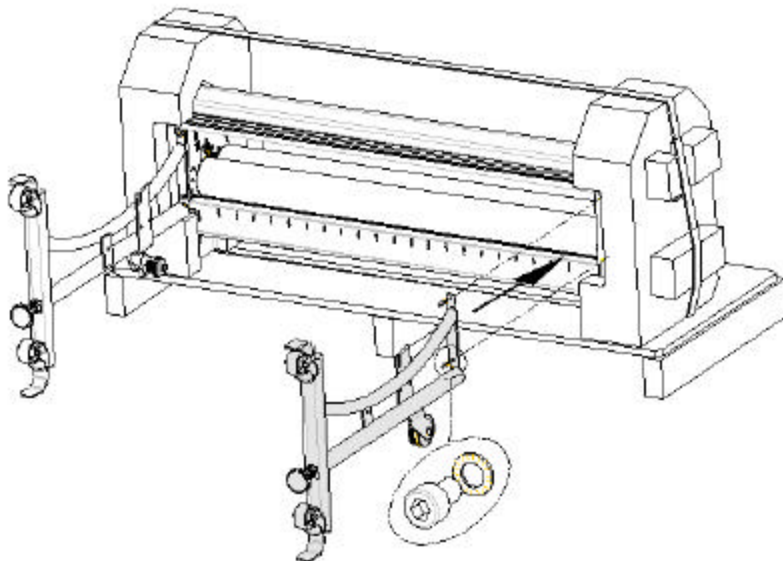

Figure 2.
- Mount the right-hand stand leg onto underside of the laminator, as shown in Figure 2.